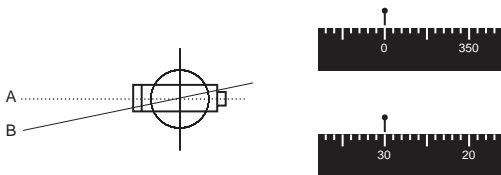

Fig. 4
- ① Set up and level the instrument exactly over the point with the plumb bob.
- ② Align point A, set the circle to read zero.
- ③ Turn the telescope, align point B, read the circle. The reading will be the horizontal angle between A and B. (See Fig. 4).